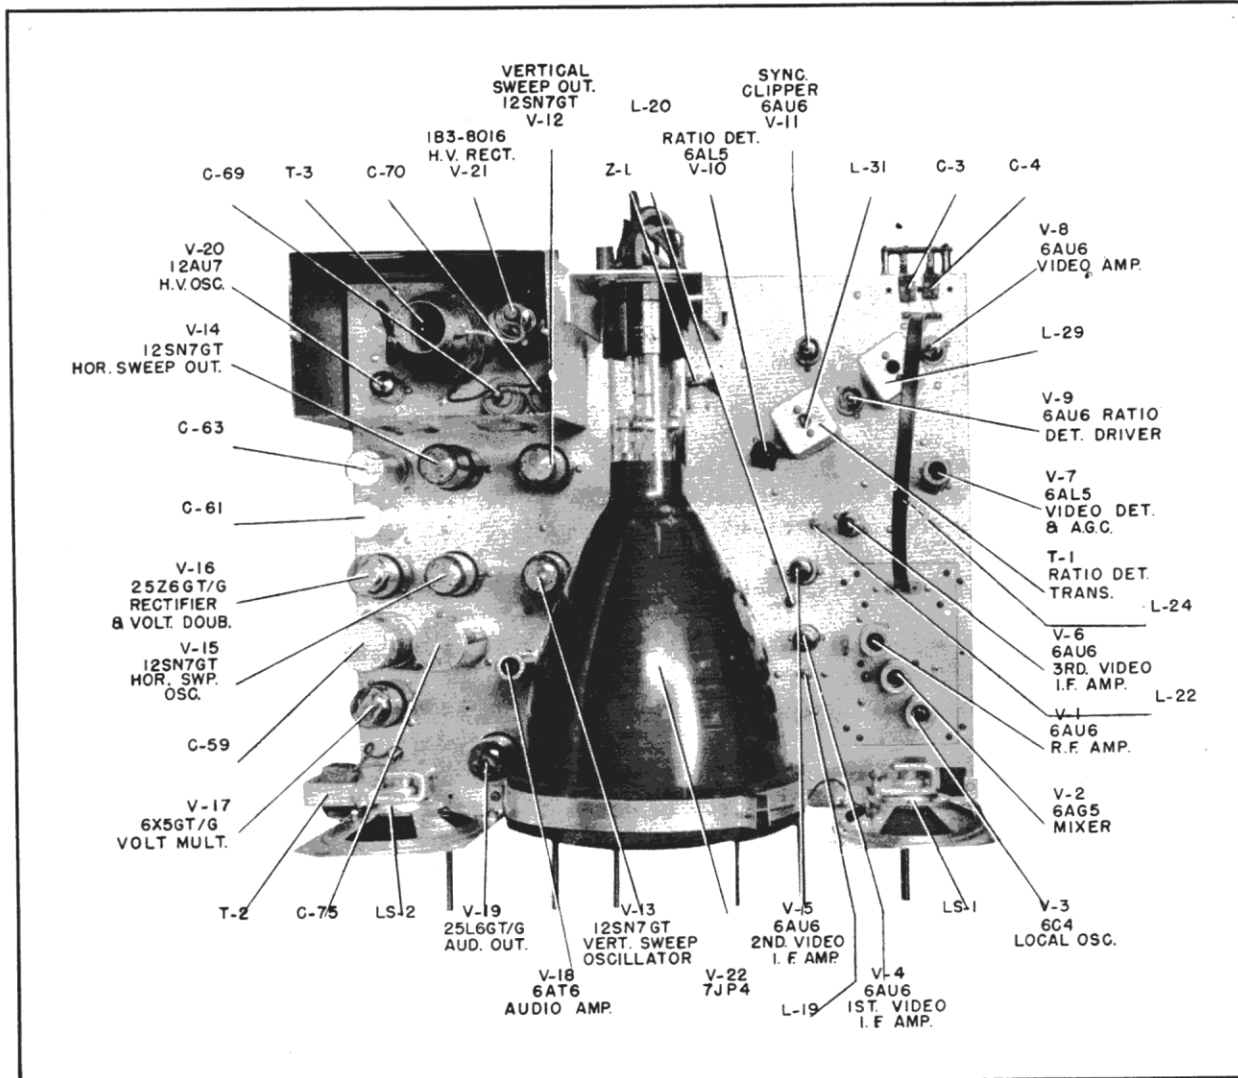

Figure No. 7. Top View of Receiver (cabinet removed)
- Step 4. Adjust L-19 and L-22 for maximum reading on the voltmeter. Retard the output of the generator, as necessary, to keep an on-scale reading on the voltmeter. See Figure No. 7. for